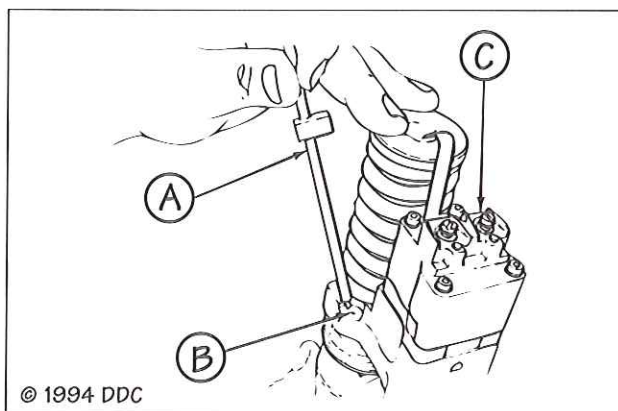

FIG. 70
11. Adjust the fuel injector height for the cylinder, indicated in Chart 1 in parentheses ( ), by placing the small end of the Height Gage (A), J35637-A, in the pilot hole (B) provided in the fuel injector body (C), with the flat of the gage toward the fuel injector plunger as shown in Fig. 70.